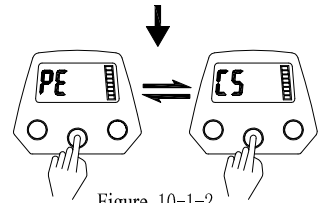

Figure 10-1-2
- 2、 Press "MENU" in turn, and "PE", "CS" and "SL" continue to loop (Figure 10-1-2).